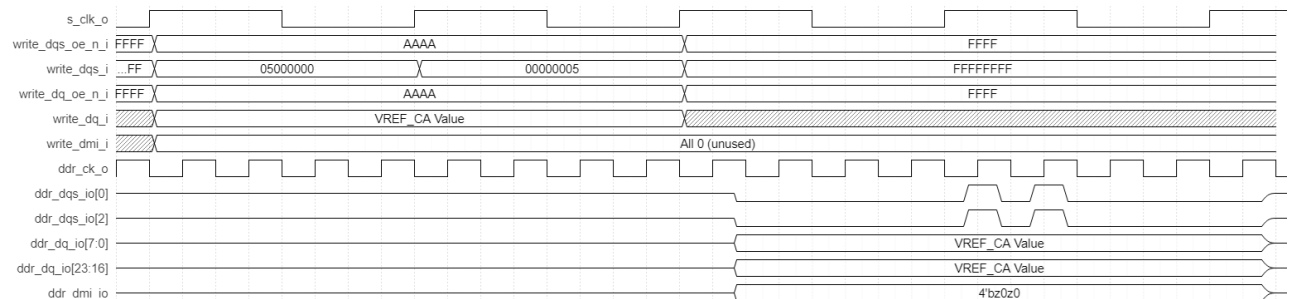

Figure 2.26. LPDDR4 Memory V_{REFCA} Programming Timing Diagram
- Program the LPDDR4 Memory V_{REFCA} – refer to Figure 2.26